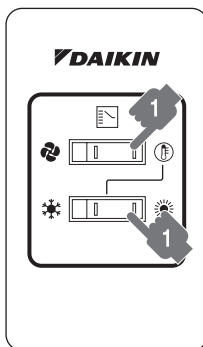

figure 7.2
- “❄️” “☀️” Heating operation (Refer to figure 7.2)